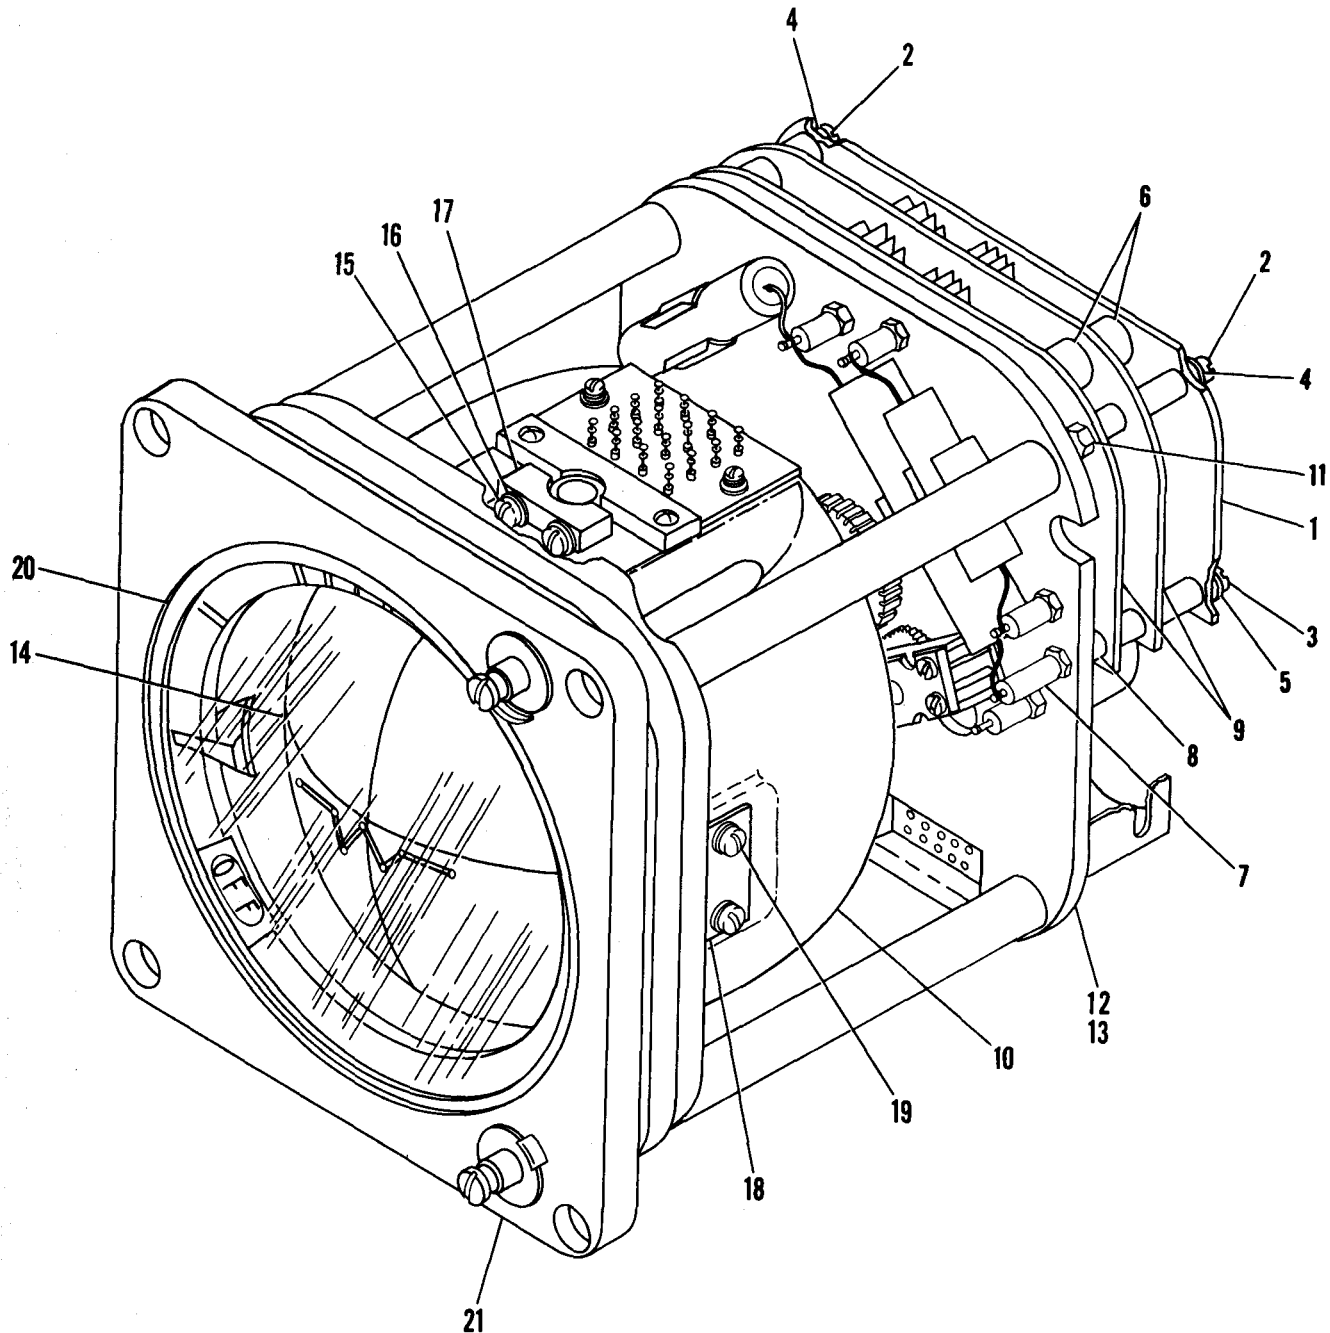

Figure 2-2. Indicator Subassembly.
(1) Remove four screws (2 and 3, fig. 2-2), eight washers (4 and 5), eight sleeve spacers (6), two terminal studs (7), and two posts (8), and remove the electronic components assembly (1) and electronic control amplifier (9).
(See figure 2-2 for breakdown)
assembly (14, fig. 2-2), exerting care not to pull on wires connected from assembly to terminal board (40, fig. 2-5).